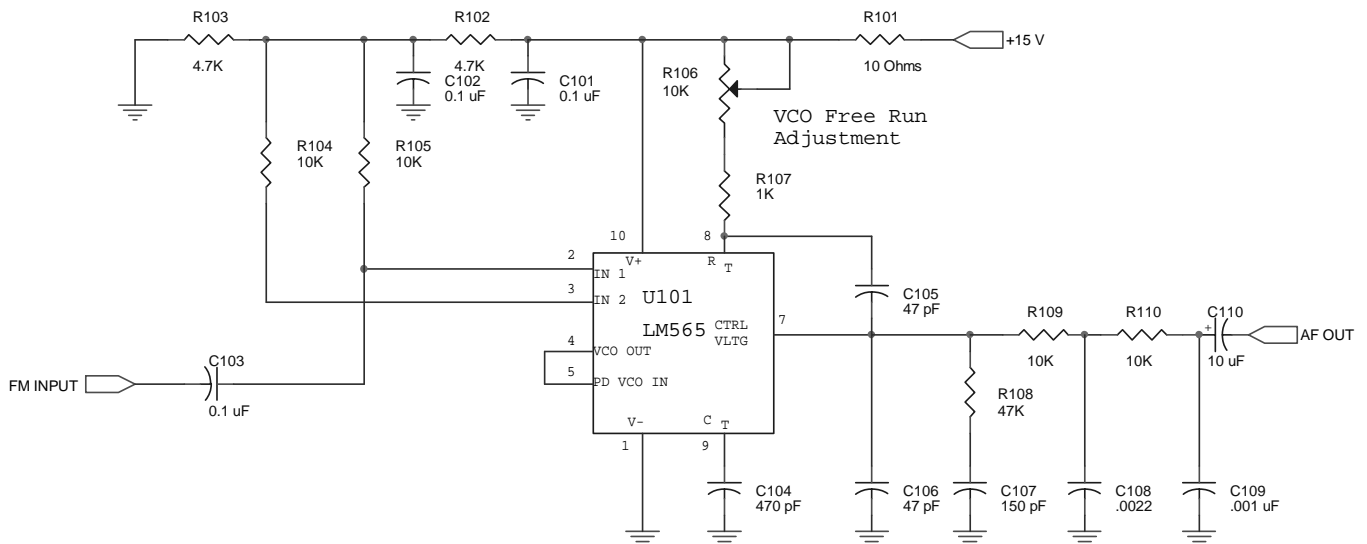

Figure 2: FM Detector using the LM565 PLL
Figure 2 shows the FM detector. It's based on the NE565 phase-locked-loop. The loop is set to free-run at 100 kHz by C104 and the series combination of R107 and R106. Pot R106 allows adjustment of the free-running frequency, which should be the same as the carrier or center frequency of the FM transmitter.
7. Build the circuit of Figure 2. Keep component lead lengths as short as possible.